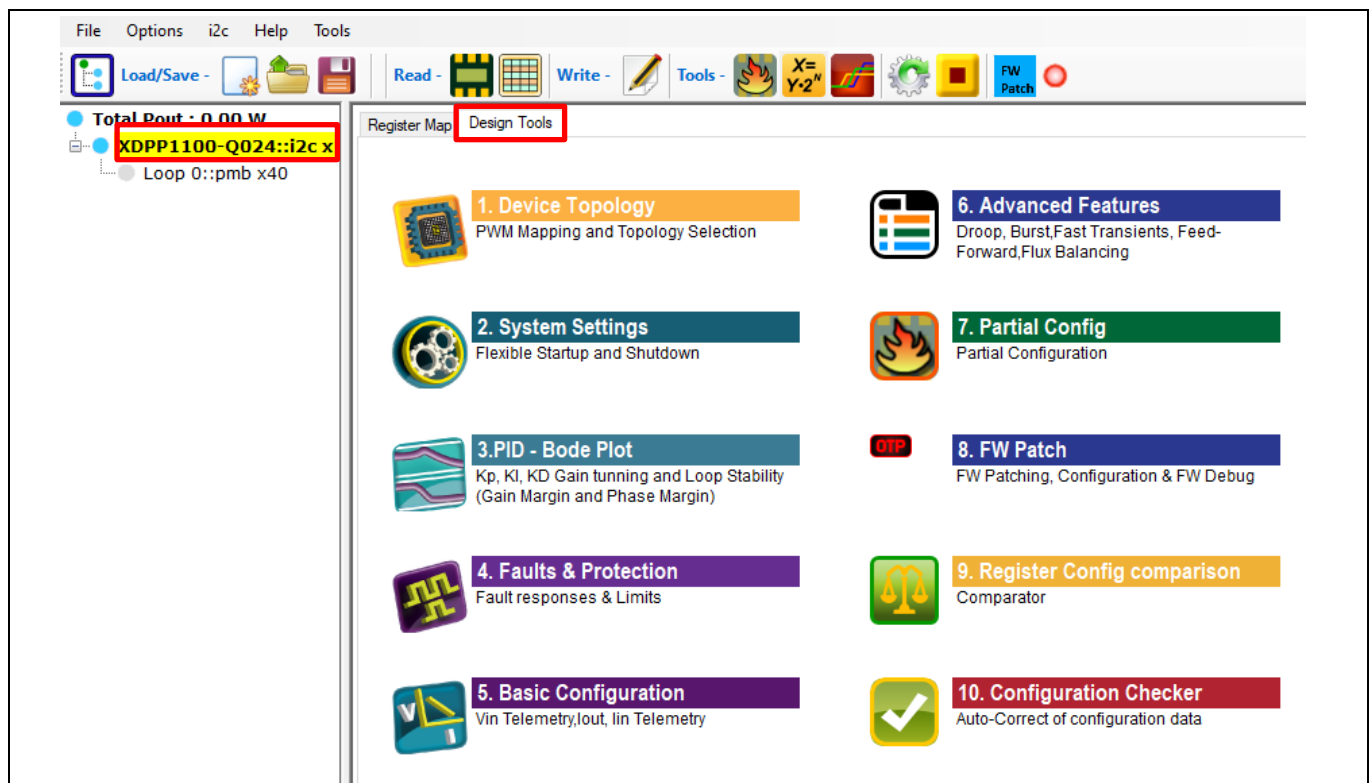

Figure 9 GUI design tool
- The user can use the GUI design tool to program the device per application requirements (Figure 9). All the configurations are in RAM. RAM is a volatile memory and can be used during the evaluation phase to try different configuration settings without limitation. The XDPP1100 has 32 kB RAM, and 10 kB is reserved for the user. It is recommended to take advantage of the 10 kB RAM to verify patch and configuration. Only the final configuration should be stored to device non-volatile memory which is one-time programmable (OTP). The XDPP1100 has 64 kB available OTP space for FW patch and configuration.